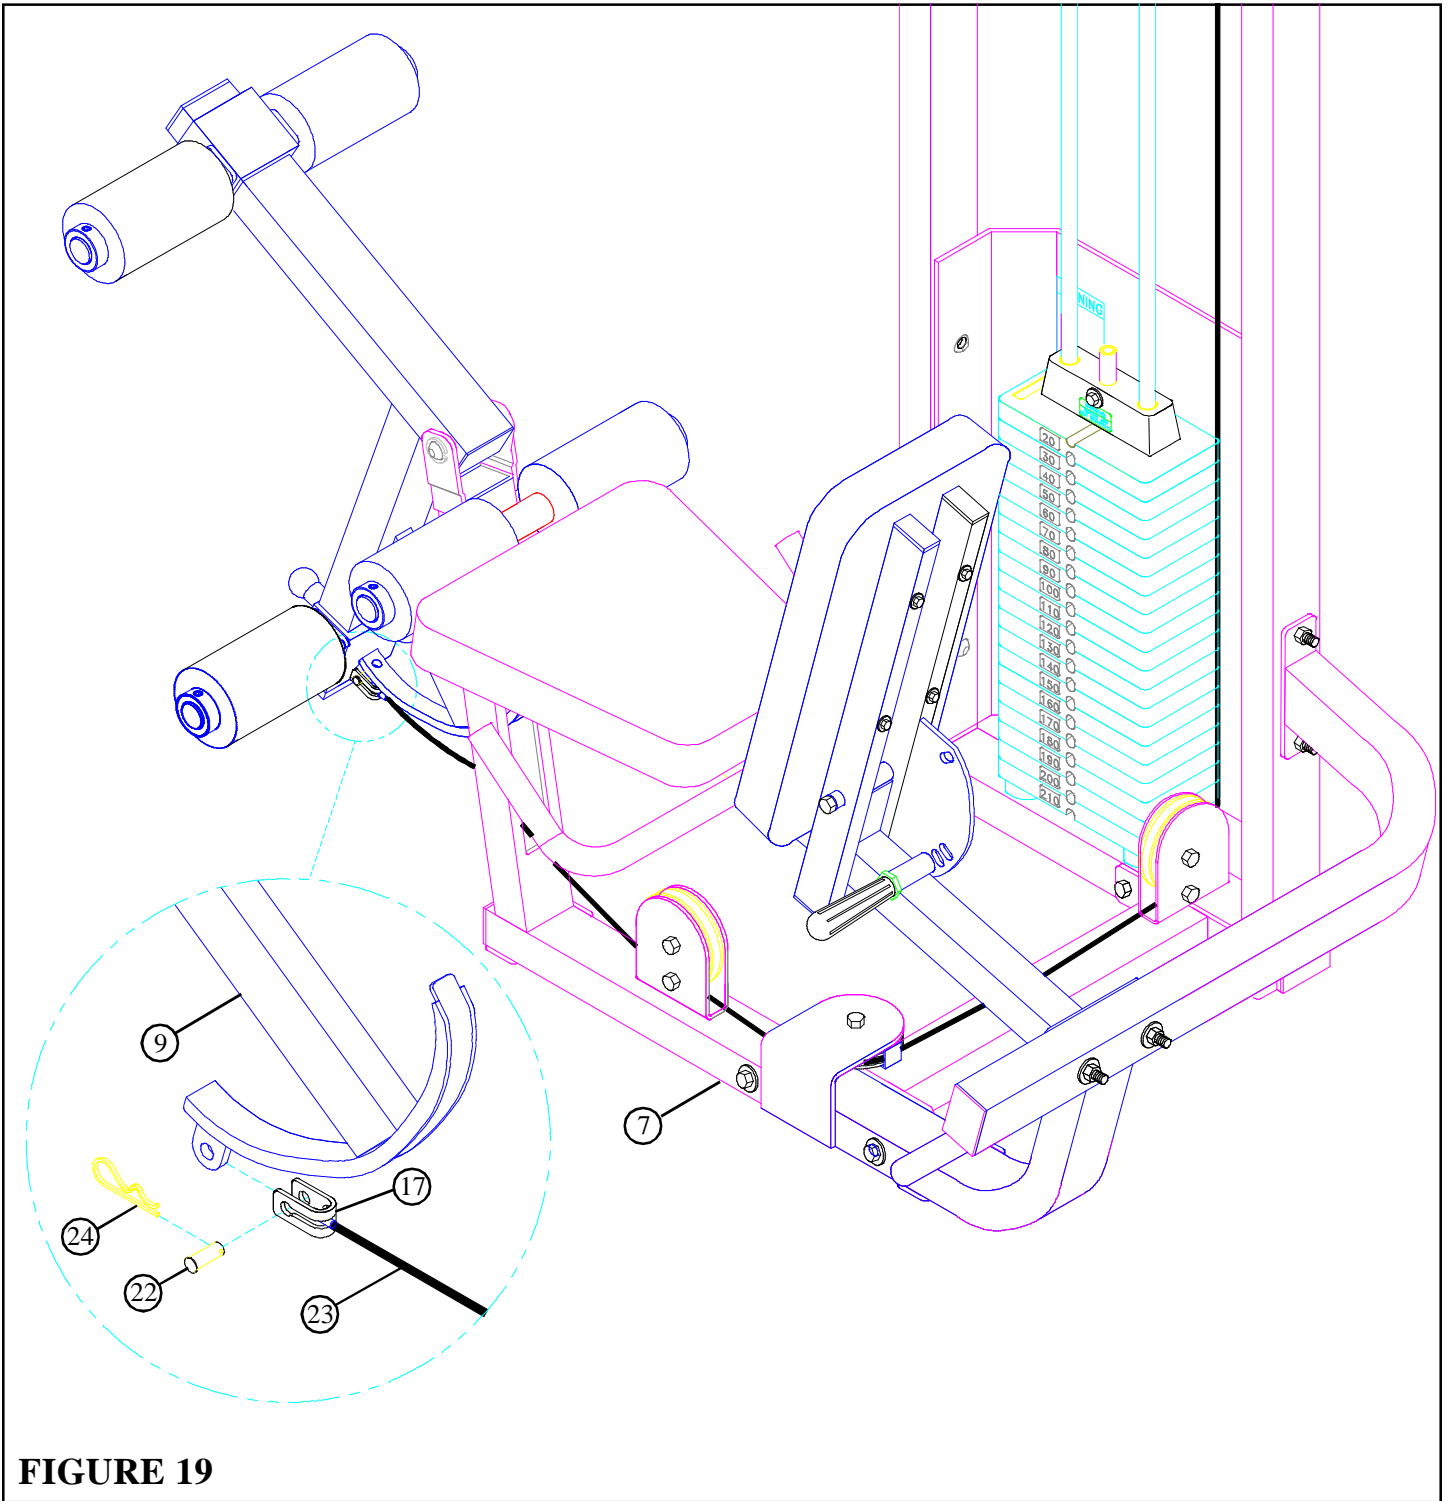

FIGURE 19
- Insert ball end of CABLE (23) through slot of the BENCH FRAME (7) and around LEG PEDESTAL (9) as shown in FIGURE 19.
- Assemble the KEYHOLE CLEVIS (17) to the tab on the cam of the LEG PEDESTAL (9) using one CLEVIS PIN (22) and one COTTER PIN (24) as shown in FIGURE 19.